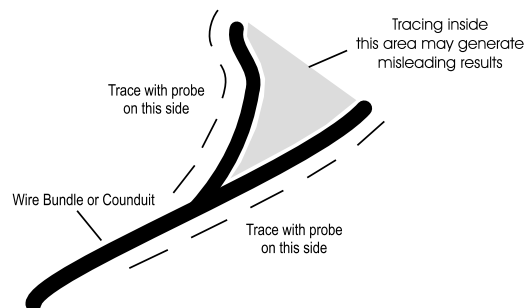

Fig. 8 - Tracing Wires inside bundles and conduits
- To avoid following the wrong path, which could happen if the probe picks up the signal from the other nearby branch of the circuit, the branches should be swept maintaining the probe outside the apex area between the split, as shown in Fig. 8.